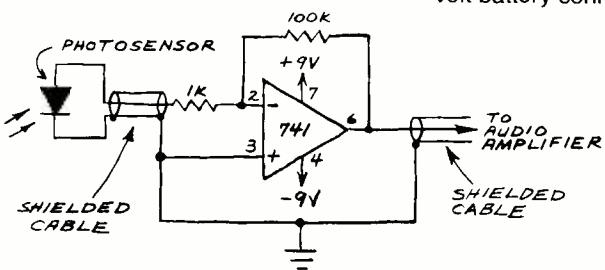

Fig. 3. Simple op-amp preamplifier for monitoring modulated light sources.
**Op Amp Preamplifier.** The circuit shown in Fig. 3 will serve as a crude but effective preamplifier for a battery-powered portable amplifier. The preamplifier can be assembled on a small perforated board. Insert the leads from a pair of 9-volt battery connector clips through a  $\frac{1}{4}$ "
The voltage gain of the preamp is the quotient of  $R_2$  divided by  $R_1$ . With the values shown on Figure 3, its gain is 1000. This should be more than adequate for most sensors. Too high an input signal will overdrive the audio amplifier, so keep the volume control set to a low level when using the preamp.